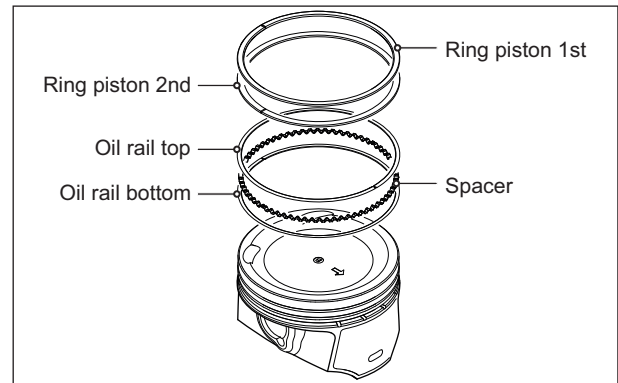
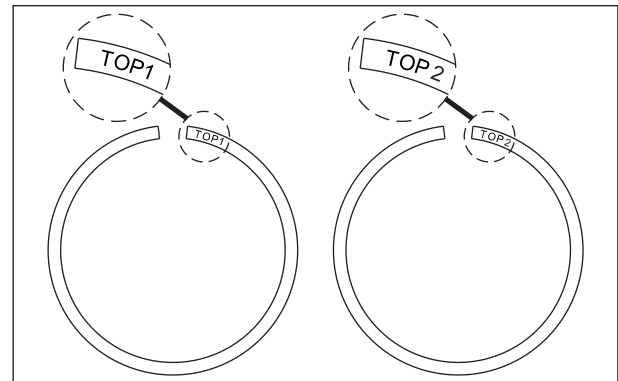

Fig. 3.95
Fig. 3.96
- Assemble the 5th ring (oil rail bottom) and ensure it is seated properly in the groove (at spacer). (Fig. 3.95)
- Now, assemble the 3rd ring (oil rail top) and ensure it is seated properly in the groove (at spacer). (Fig. 3.95)
- Install the ring piston 1st and ring piston 2nd with the marking on the ring 'TOP1' and 'TOP2' (Fig. 3.95 & Fig. 3.96) facing up (mark facing towards piston top).